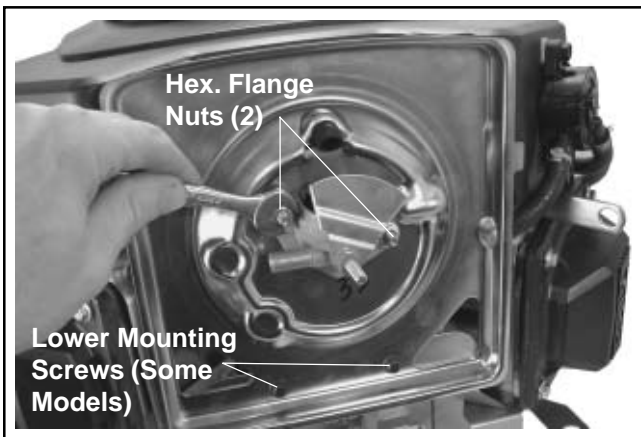

Figure 9-7. Removing Standard Air Cleaner Base.
4. Remove the two hex. flange nuts securing the spitback cup, baffle or bracket, and air cleaner base. See Figure 9-7. Two additional lower screws must be removed if the engine contains a lower air cleaner support bracket.